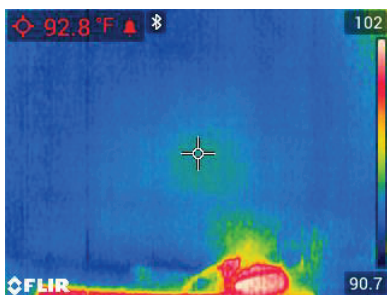

Figure 8.4 High Radiometry alarm example. Note that the reading is red in color
4. When the High or the Low Alarm is enabled, the main display will show the alarm bell icon next to the measurement digits as shown in **Figure 8-4** below.